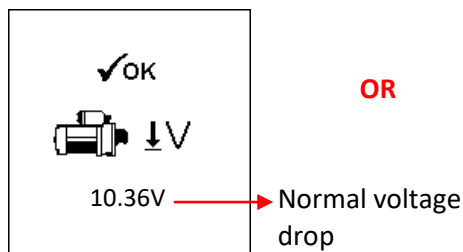
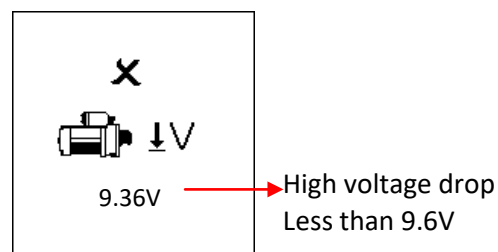

Fig. 44
Fig. 45
3. Now switch the ignition key to ON and start cranking the engine until it starts. As soon as the engine starts, the results will automatically display as shown in examples below :(Fig.44 or Fig. 45)